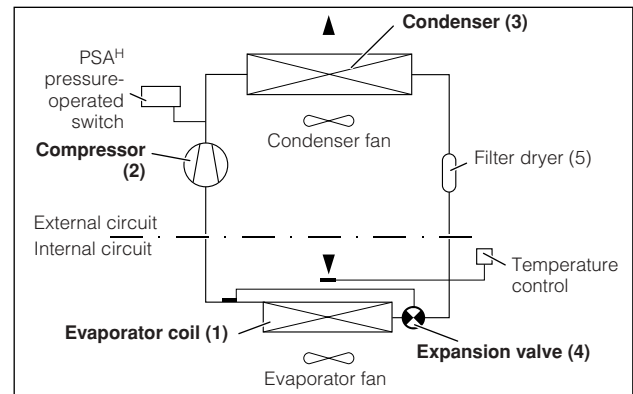

Fig. 2: Cooling circuit
The cooling unit (compression refrigeration system) is comprised of four main components (cf. Fig. 2): the evaporator (1), the coolant compressor (2), the condenser (3), and the control or expansion valve (4), which are connected by suitable pipework. This circuit is filled with a readily boiling substance, the refrigerant. Coolant R134a (CH_2FCF_3) is chlorine-free. Its ozone destruction potential is 0, making it very eco-friendly. A filter dryer (5) which is integrated